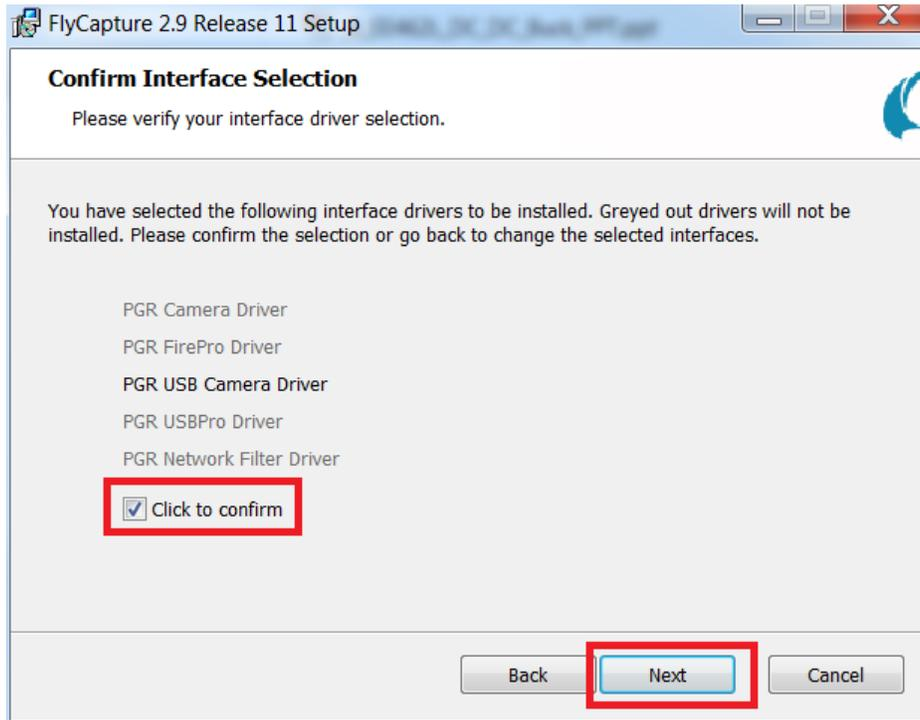

Figure 2-10. Confirm Camera Interface Selection for FlyCapture2 SDK
- Once your options have been selected, the FlyCapture2 installer will confirm the settings. Check the box labeled "Click to confirm," then click the "Next" button, shown in Figure 2-10.